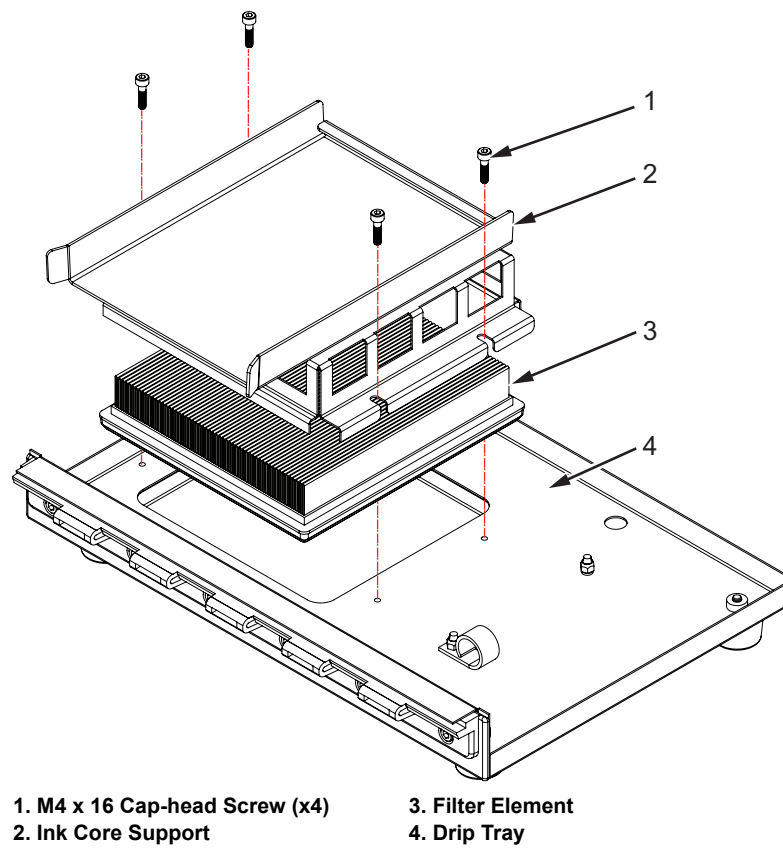

Figure 8-2. Floor Filter - IP65
- 1 Loosen the four M4 x 16 cap-head screws (item 1, Figure 8-2 on page 8-3) and remove the screws.
- 2 Detach the ink core support channel (item 2).
- 3 Remove the filter element (item 3) from the drip tray (item 4).